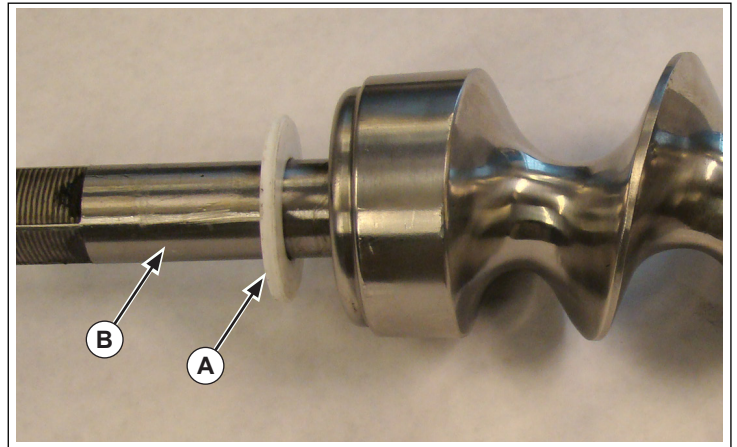

Figure 2. Shaft Washer and Worm Gear Shaft
4. Inspect the shaft washer (A) for wear. See Figure 2. Replace if necessary.